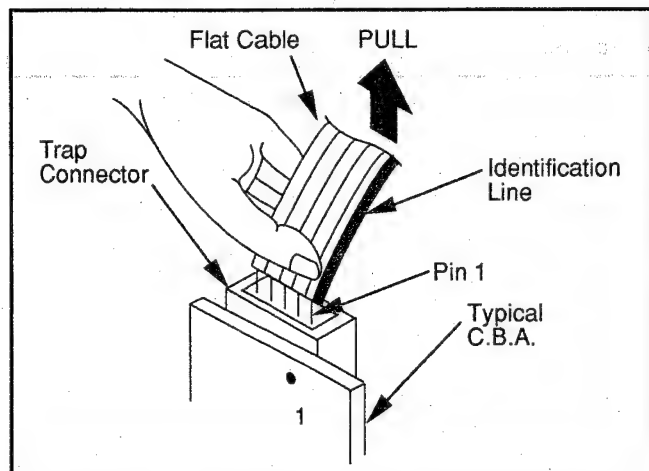

Fig. 6-3
- 1) Pull out the Flat Cable. Minimize stress by holding it securely to avoid damage of the individual wires. (See Fig. 6-3)
1. Adjust the position of the Flat Cable so that the Identification Line on the Flat Cable aligns with Pin 1 of the Trap Connector in Fig. 6-3 and 6-4.